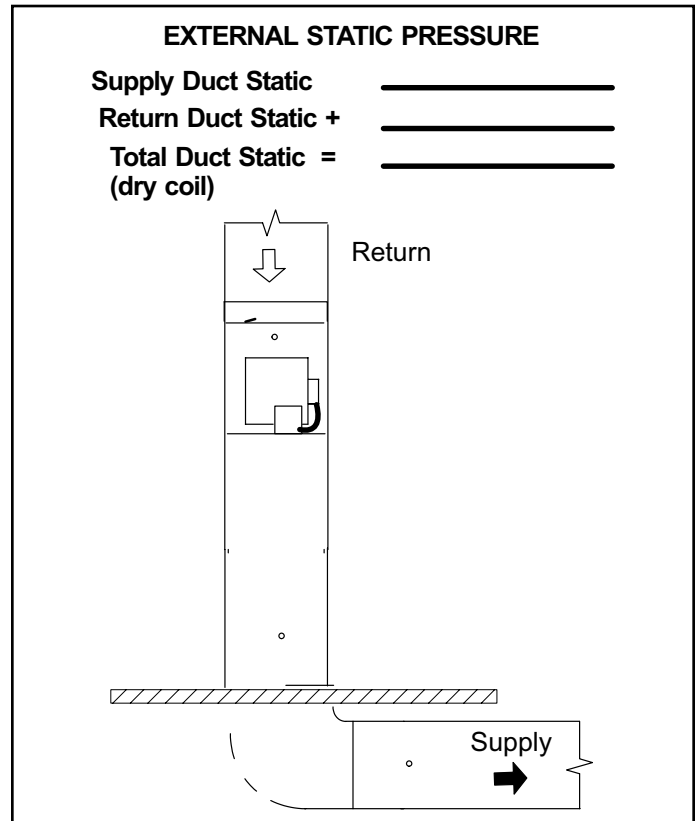

Figure 49.
1. Tap locations shown in Figure 49.